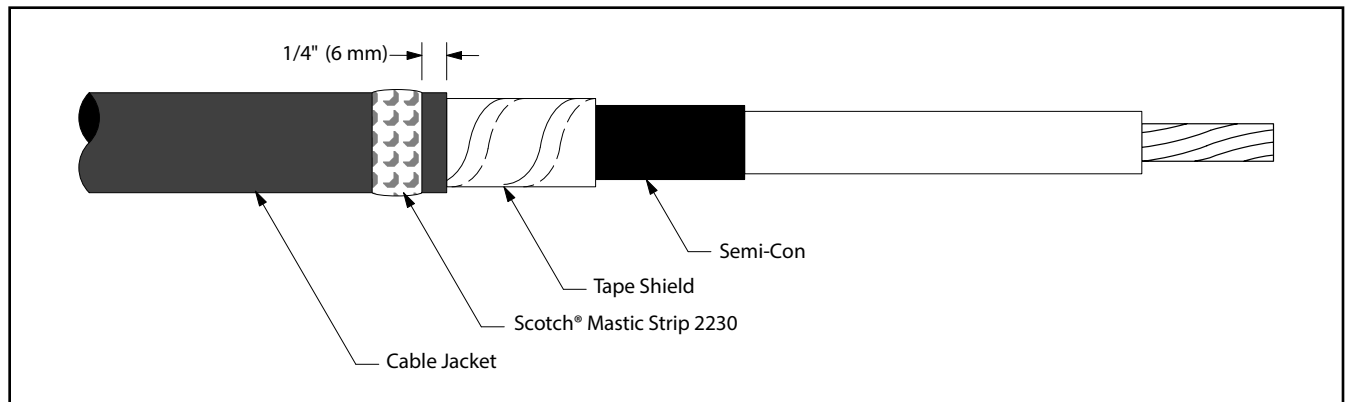

Figure 2
- 3.1 Select a Scotch® Mastic Strip 2230 from kit and remove white release liners. Using light tension, apply a **SINGLE WRAP** of mastic around the cable jacket 1/4" (6 mm) from cut edge (*Figure 2*). Cut off excess.